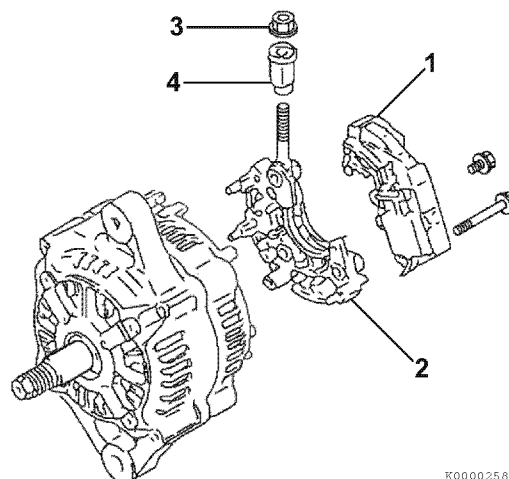

Figure 12-16
6. Reinstall the insulation bushing (4, **Figure 12-16**) and nut (3, **Figure 12-16**).
7. Reassemble the regulator assembly (1, **Figure 12-16**) to the holder (2, **Figure 12-16**).